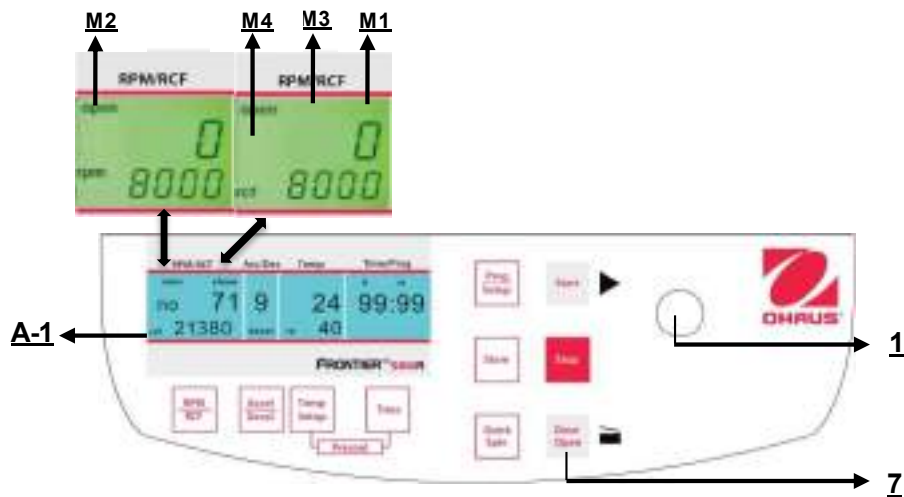

Figure. 15
After the run, when the lid of the centrifuge is closed, the word **"close"** (M1) appears in the display **"RPM | RCF"** (A-1). Additionally, if there is a rotor in the centrifuge, the word **"rotor"** (M3) appears as well as the code number of the respective rotor, which is in the centrifuge system **"71"** (M4). If there is no rotor in the centrifuge, the word **"rotor"** (M3) flashes and additionally the word **"no"** (M4) appears. By pressing the key **"Door Open"** (7) you can release the lid of the centrifuge. As soon as the electromagnetic lid is completely released, the word **"open"** (M2) appears. Now you can open the lid of the centrifuge. Please refer to figure 15 below for reference.
The lid should only be put down slightly. An electromagnetic lid lock closes the lid, at the same time the word **"open"** (M2) disappears (refer to figure 15).